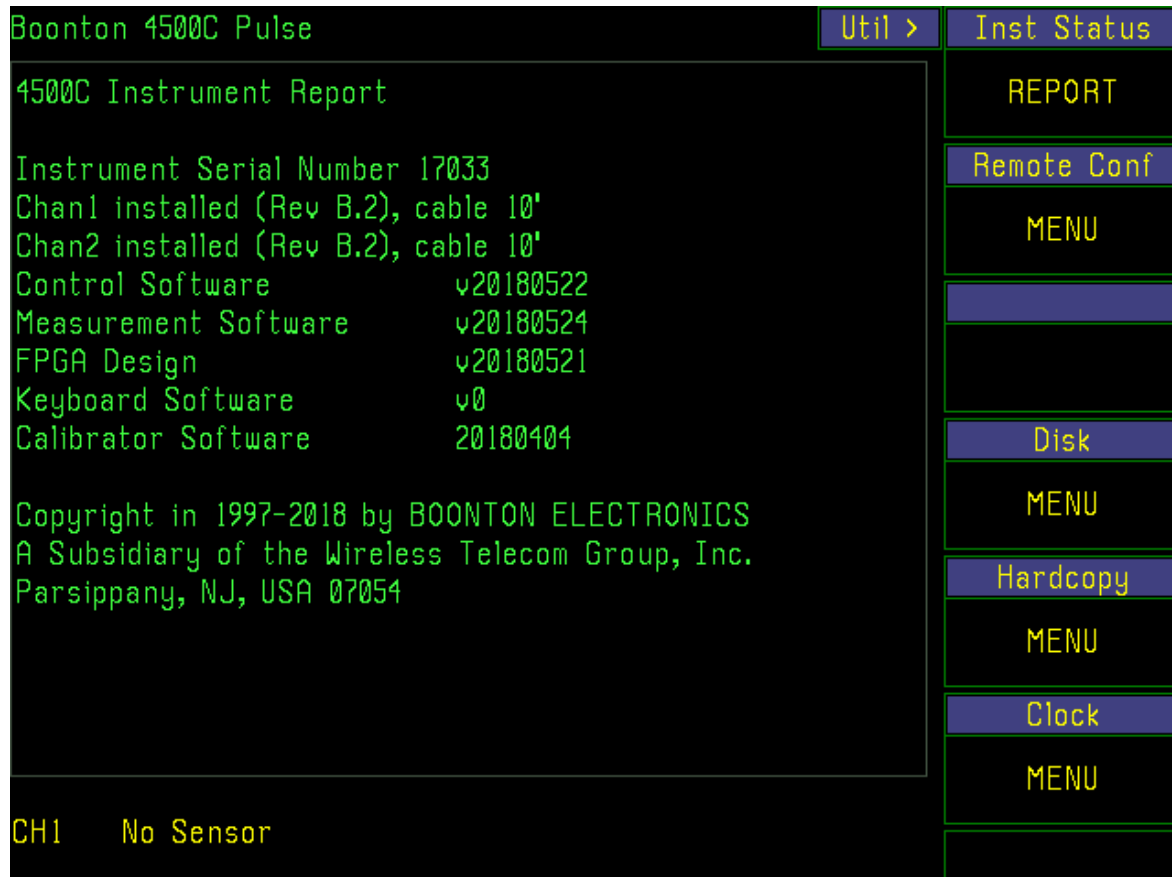

Figure 2-3. Util > Inst Status Display
6. On the front panel, press the UTIL function key followed by the *Util > Inst Status > REPORT* menu key. A display similar to Figure 2-3 should appear.